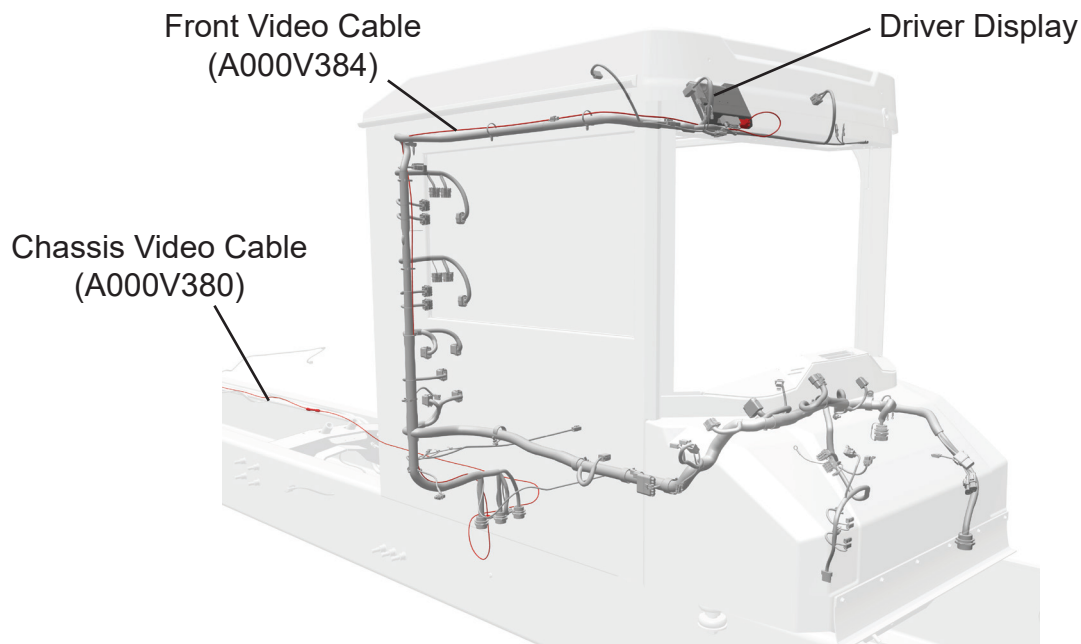

Figure 4
7. Route the female end of the cab video cable behind the front overhead panel and along the right side of the cab to the electrical cabinet, see Figure 4.
8. Continue routing the cab video cable through the electrical cabinet to the cab bulkhead connectors and through the bulkhead to the left-hand frame rail see Figure 4.